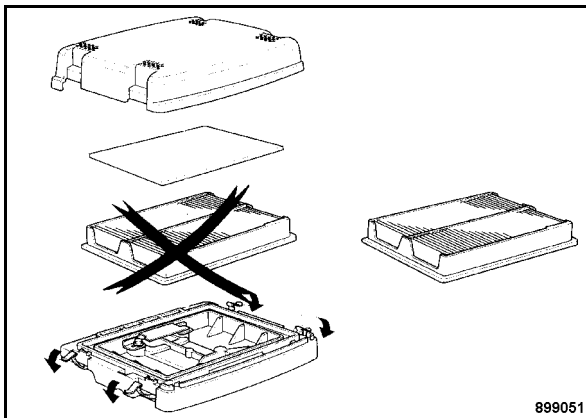

Fig. 97
- Lay the foam insert into the air filter cartridge into the air filter housing cover and then install the air filter cartridge (Fig. 97).